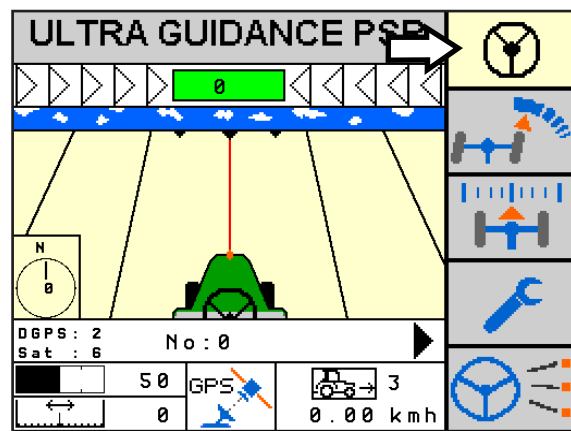

Fig. 23: Steering system disengaged – engage steering key yellow
- the engage steering key is yellow (see Fig. 23) and
- Press the engage steering key in the PSR mask (see Fig. 23);